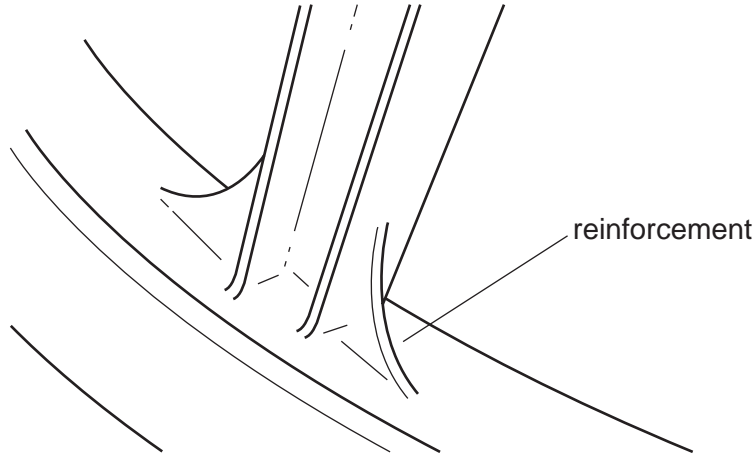

Fig. 1
- 1 Identify the method of structural reinforcement shown in Fig. 1.